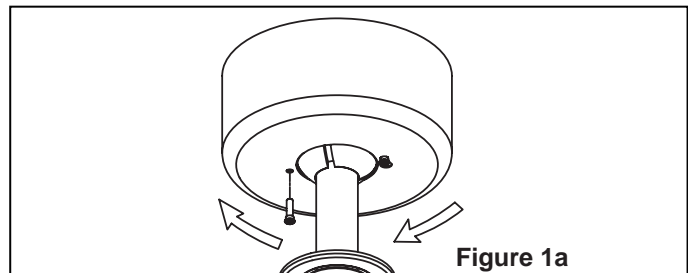

Figure 1a
- 1. Remove one of the two shoulder screws in the hanger bracket. Loosen the second shoulder screw without fully removing it. Assemble canopy by rotating key slot in canopy over shoulder screw in hanger bracket. Tighten shoulder screw. Fully assemble and tighten second shoulder screw that was previously removed (Figure 1a).